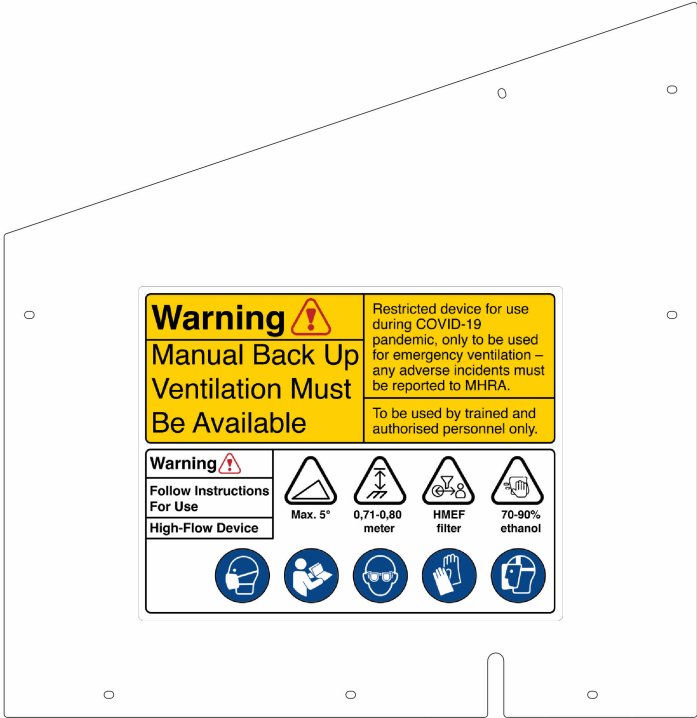

Figure 24: Placement of sticker on the right side plate
3. Place sticker H55 on the right side plate of assembly HA7 as shown in figure 24.